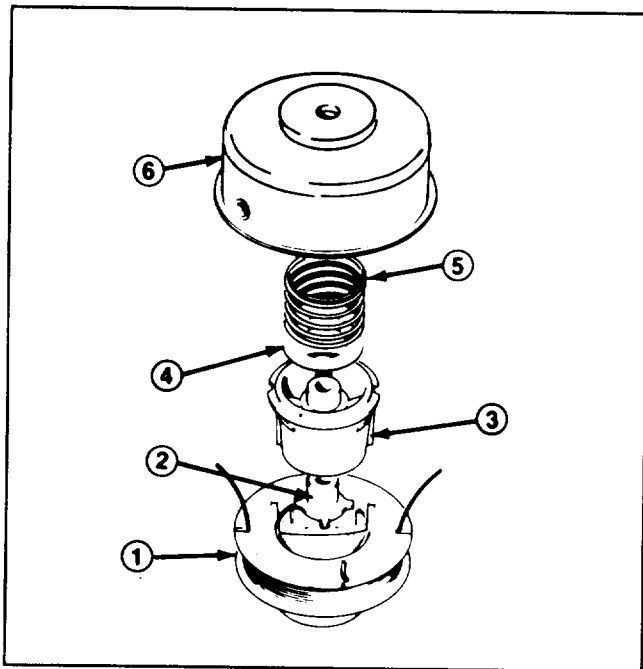

Figure 22
**Note:** Avoid crossover or crisscrossing of line to insure proper line advancing. Winding line in wrong direction will cause spool, cover and driver (Fig. 22) to detach from cutter head.
- Insert medium blade screwdriver in one of two windows slots on spool hub and twist screwdriver 1/4 turn (Fig. 22). Spool will snap off.